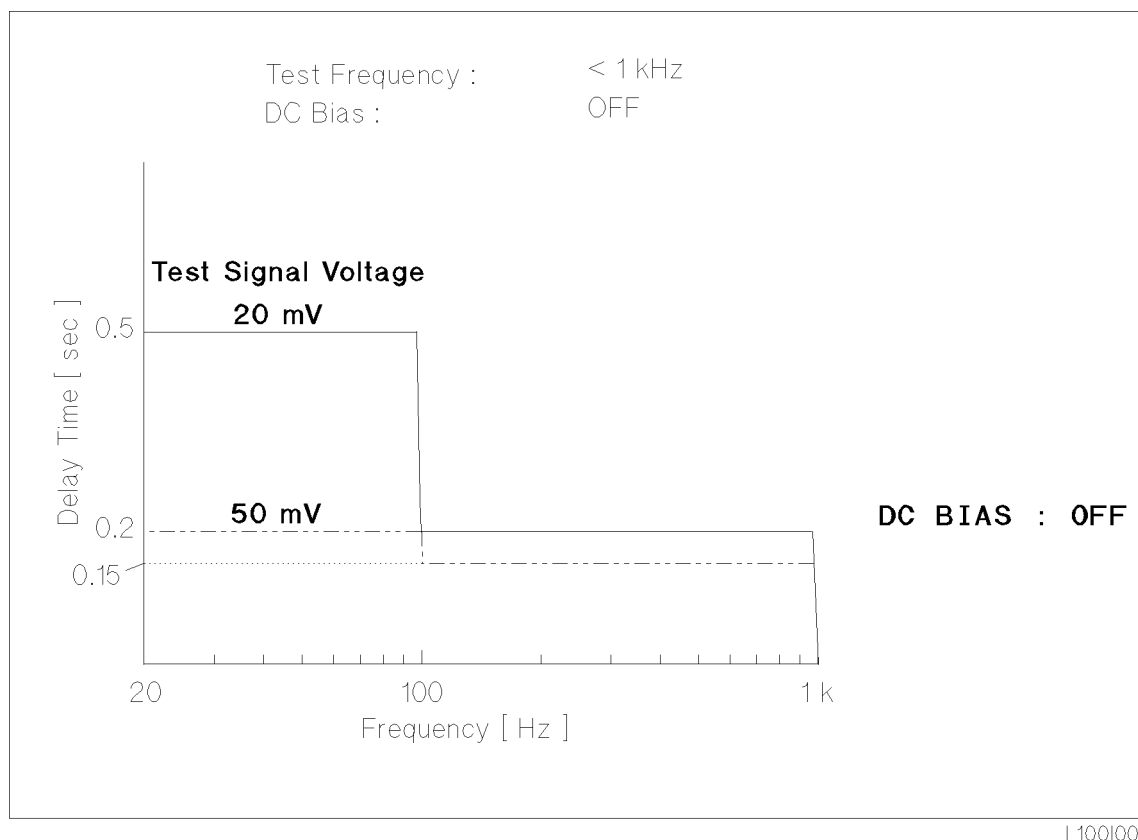

Figure G-1. Required Delay Time After Changing the Measurement Range (1)
1. After changing the measurement range under the following conditions use the delay times shown in Figure G-1.